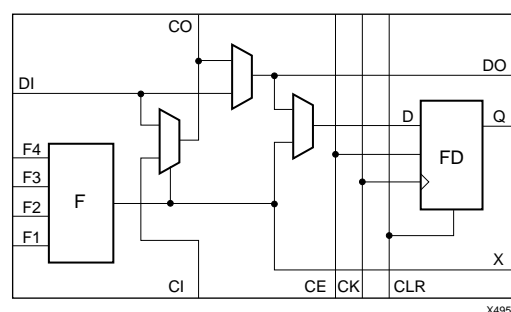

Figure 2. XC5200 Logic Cell (Four LCs per CLB)
The basic logic element in each VersaBlock structure is the Logic Cell, shown in Figure 2. Each LC contains a 4-input function generator (F), a storage device (FD), and control logic. There are five independent inputs and three outputs to each LC. The independence of the inputs and outputs allows the software to maximize the resource utilization within each LC. Each Logic Cell also contains a direct feedthrough path that does not sacrifice the use of either the function generator or the register; this feature is a first for FPGAs. The storage device is configurable as either a D flip-flop or a latch. The control logic consists of carry logic for fast implementation of arithmetic functions, which can also be configured as a cascade chain allowing decode of very wide input functions.